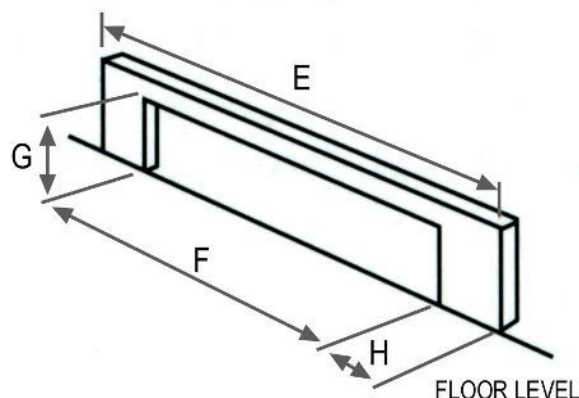

Figure 3. Mounting slot.
1. Cut a hole in the plinth board, to the dimensions given in Figure 3.